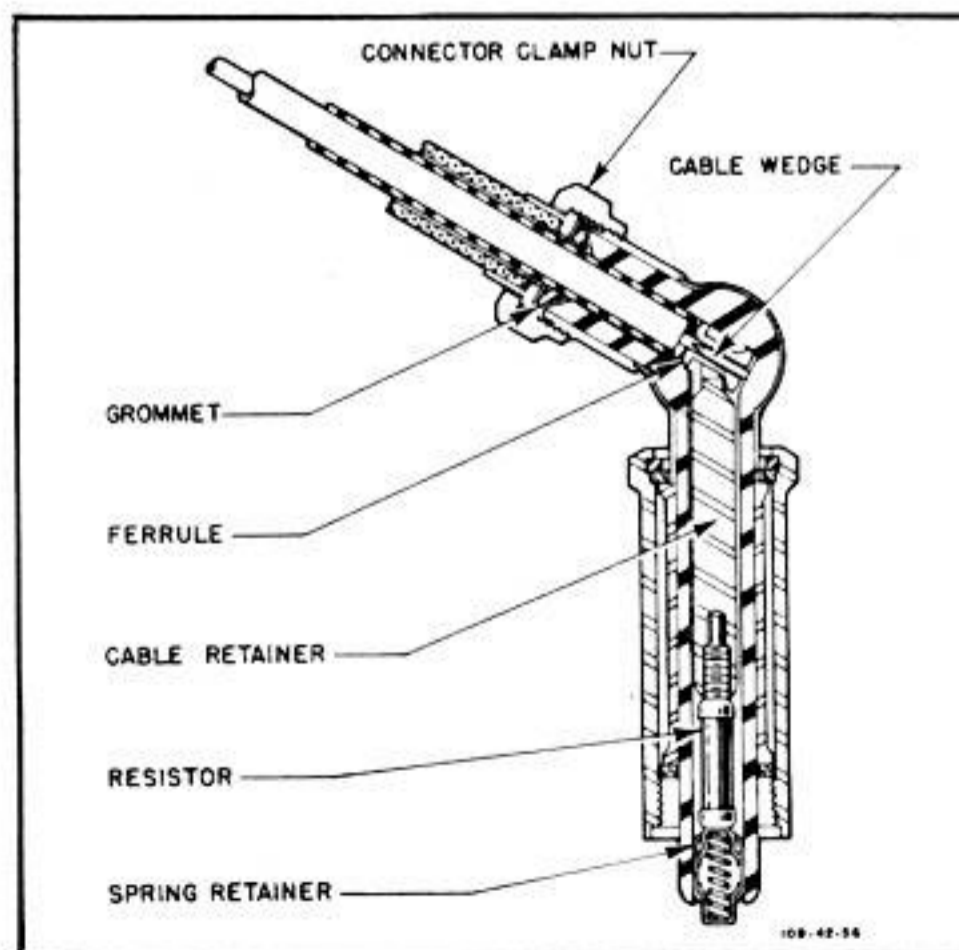

Figure 248—Typical Spark Plug Cable Connector
(1) DISASSEMBLING SPARK PLUG WIRING CONNECTORS. (See figure 248.)—As the insulator portion of the connector is molded into the outer body, it is necessary to remove the assembly in case of insulator failure. Disassemble connectors as follows: